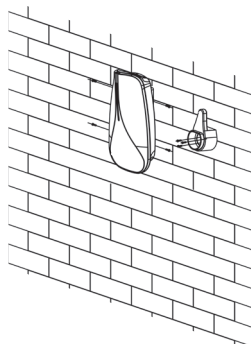

Fig. 5: Wall-mounted pile body installation diagram
4) Hang the charging pile onto the wall-mounted hanging board, and then fix the charging pile onto the wall-mounted hanging board with screws (M4*15 mm stainless steel combination screws) from both sides, as shown in Fig. 5.
4) As shown in Fig. 5, align the hole position of the gun rack with the drilled hole, and lock it with M4*40 mm stainless steel round head self-tapping screw.